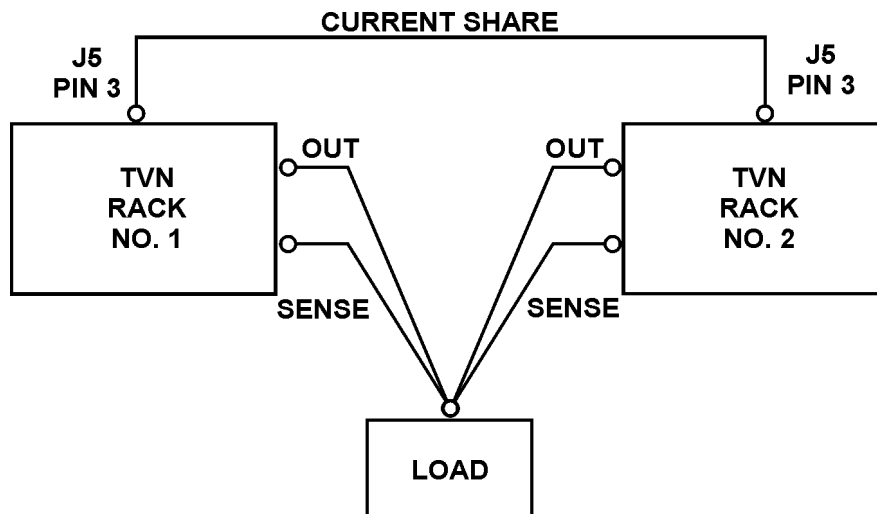

Figure 8. Parallel Connection of TVN Racks.
14.3 Multiple Parallel Rack Operation. Multiple racks can also be operated in parallel by interconnecting their current share terminals (J5 Pin 3). The total power can be expanded by several times. In this case N+1 redundant operation is achieved by reserving one module of the total for redundancy. For example, if two three-module 19-inch racks are employed with a total of six modules, then 5+1 redundancy is achieved and the full load must be able to be carried by the output of five modules. In such applications each set of remote sense wires must be separately connected to the point of load. See Figure 8 for a simplified illustration of two TVN racks connected in parallel.